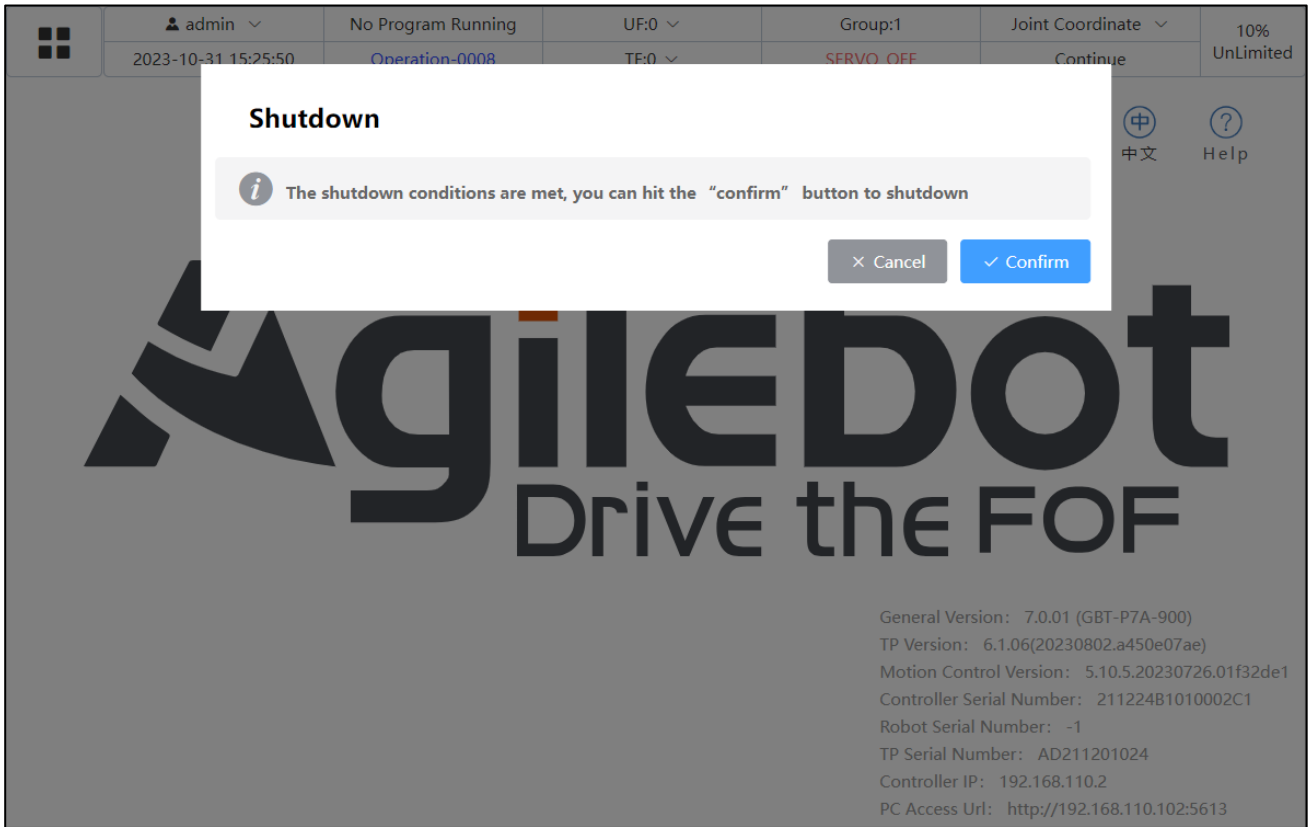

Fig. 1.7 Shutdown Window
- 1) Press the power switch button on TP until the screen shown in Fig. 1.7 appears, and then click Confirm.